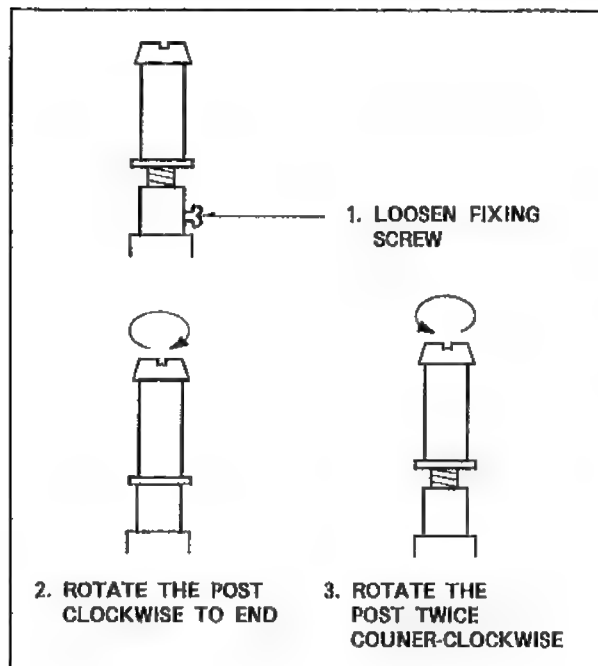

Fig.M15
5. Rotate the P2 and P3 Posts twice counter-clockwise as shown in Fig.M15.